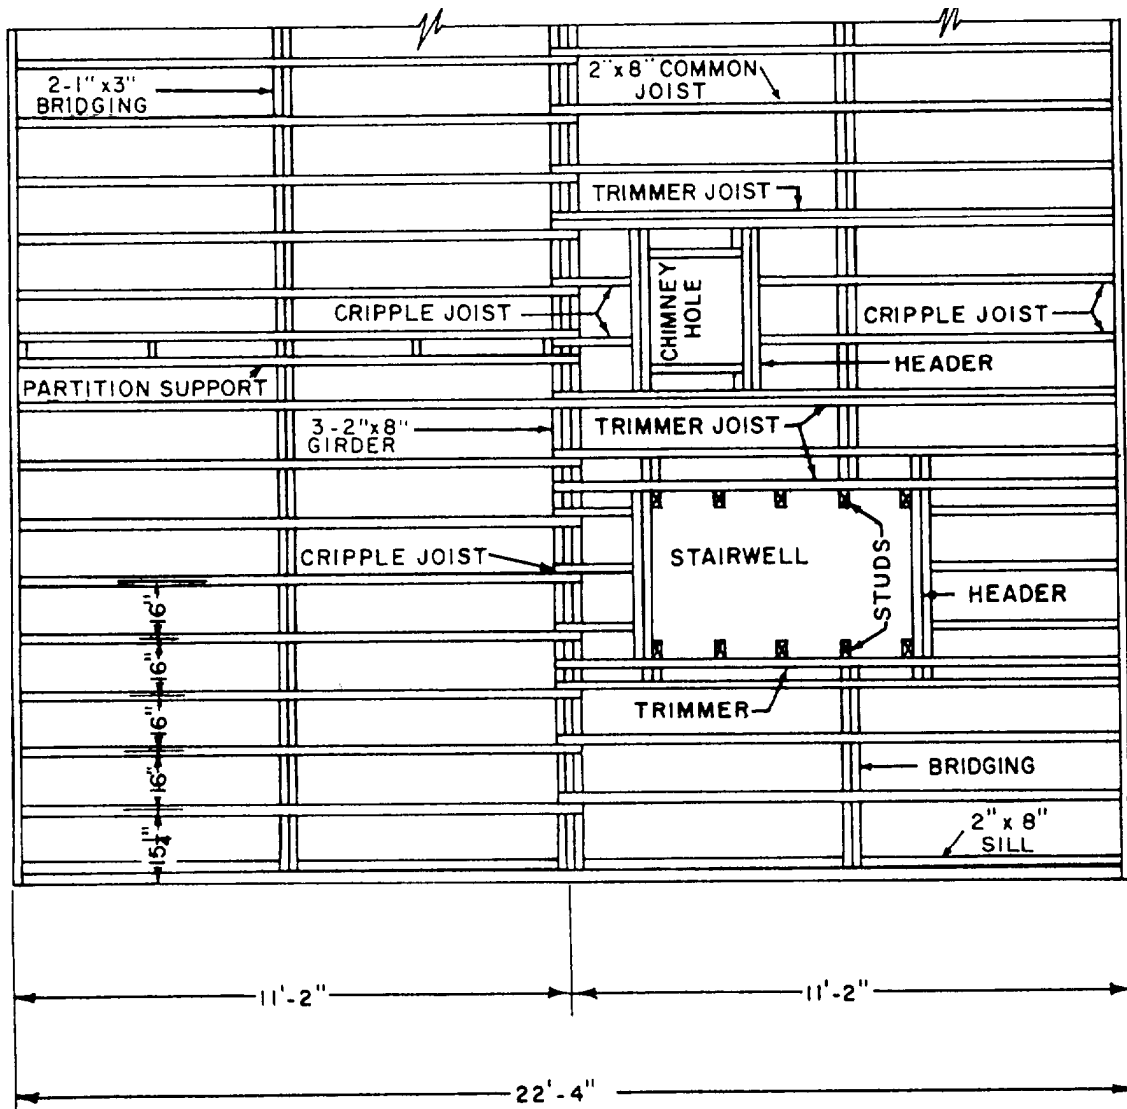

Figure 2-14.—Floor framing plan.
**FLOOR PLANS.**— Framing plans for floors are basically plane views of the girders and joists. Figure 2-14 is an example of a typical floor framing plan.